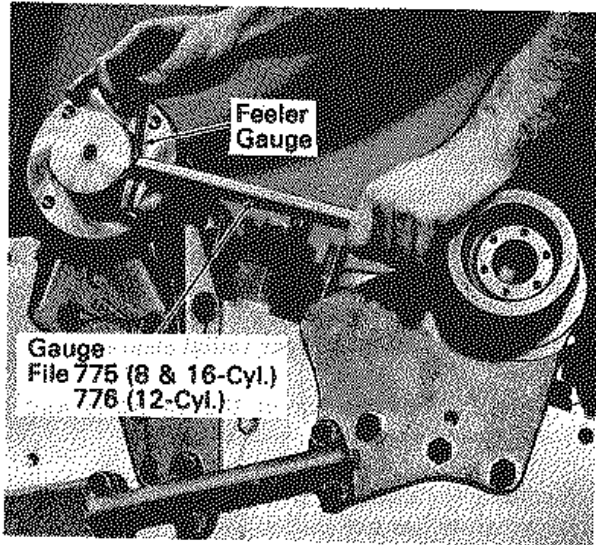

Fig. 7-9 Blower Stubshaft Alignment
4. Align each blower drive gear stubshaft to the camshaft stubshaft on the same side by using the blower drive gear alignment gauge, Fig. 7-9, (File 775 for 8 & 16-cylinder engines and File 776 for 12-cylinder engines) and a 0.008" feeler gauge.